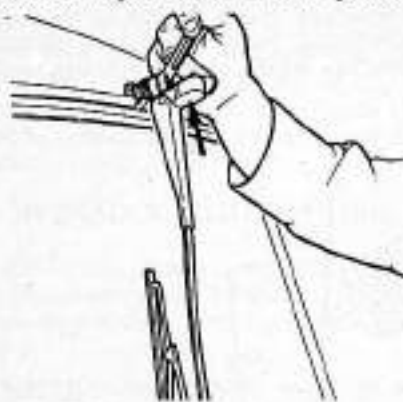

Fig. 124 - To remove wiper arm, pull top of arm forward as shown and remove nut retaining arm to motor shaft. Remove wiper arm complete with wiper blade.
**231. REMOVE AND REINSTALL WIPER MOTOR.** To remove wiper motor, first move top of arm forward (Fig. 124) and remove nut retaining wiper arm to motor shaft. Remove wiper arm. Remove seal, washer and nut retaining wiper motor to cab roof from motor shaft. Remove panel covering wiper motor from cab roof inside cab, note positions of wires and disconnect and remove wiper motor.